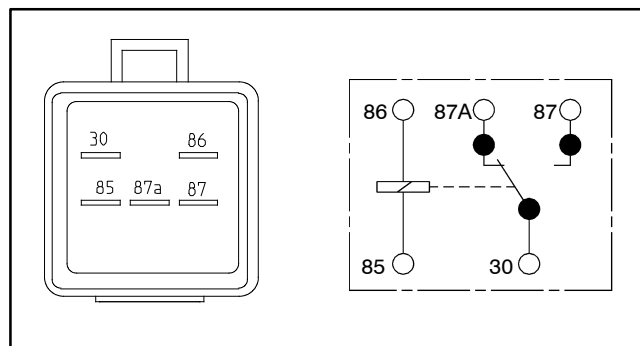

Figure 14
4. Using a multimeter (ohms setting), measure coil resistance between terminals 85 and 86 (Fig. 14). Resistance should be between 70 and 90 ohms.